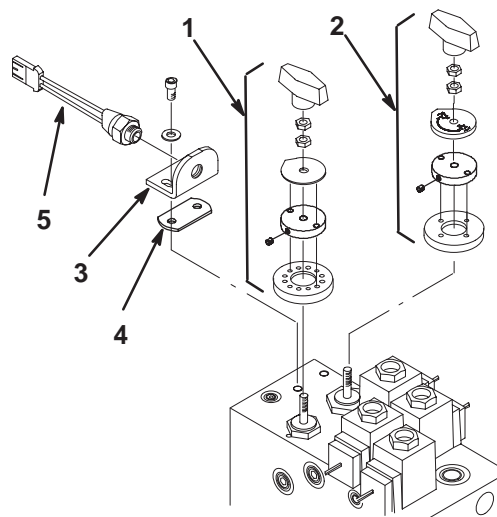

Figure 3
6. Install the detent kit components (Fig. 3) onto the flow control valve using the instructions supplied with the kit.
7. Install the detent kit components (Fig. 3) onto the directional valve using the instructions supplied with the kit.
8. Loosely secure the backlap bracket and the spacer plate to the manifold assembly with 2 screws and washers (Fig. 3).
9. Thread the switch into the bracket (Fig. 3).